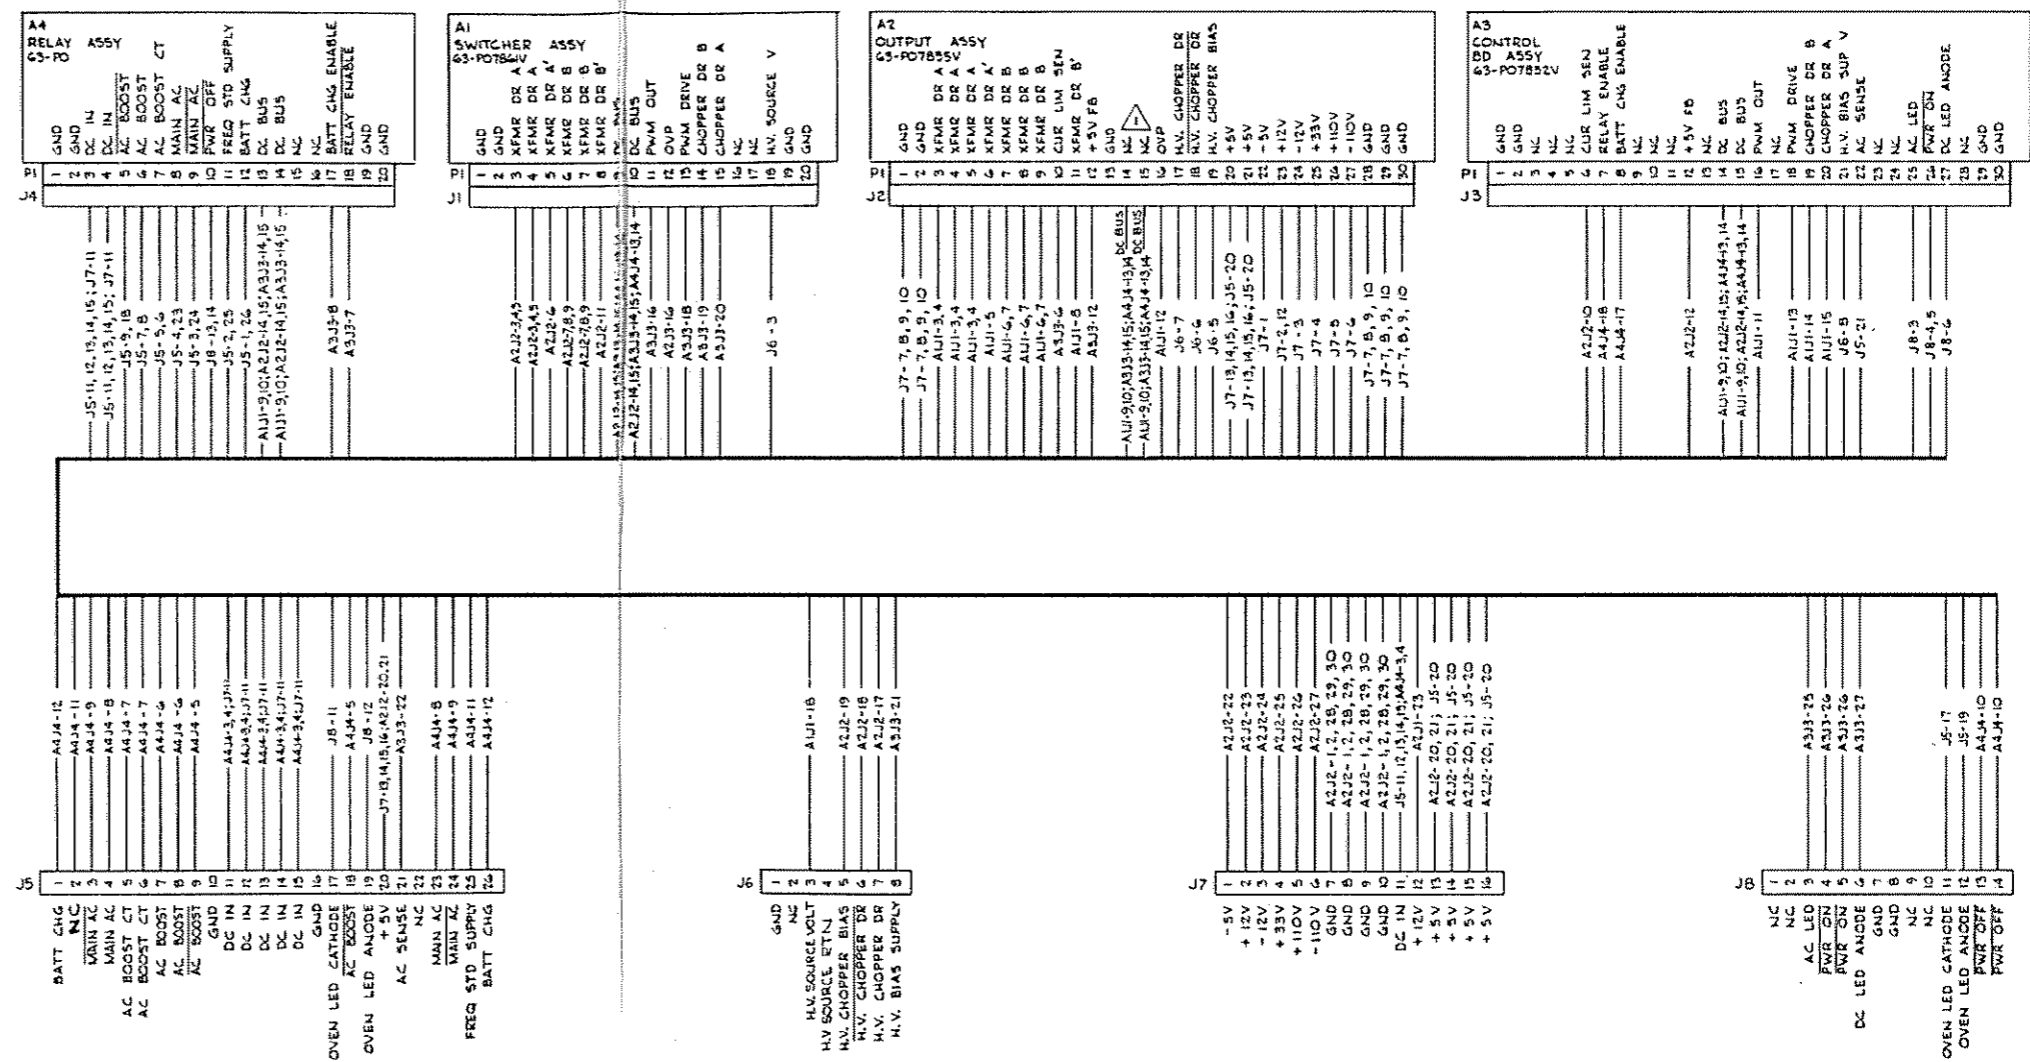

Figure 7-2. Low Voltage Power Supply A1 Interconnection Diagram
**7-14. SWITCHER MODULE A1A1.** The switcher module (figure 7-2) contains the pulse width modulator and chopper circuits. The input PWM DRIVE signal, from the control module, switches the chopping circuit on and off. This produces a rectangular wave output which is filtered and applied to transformer choppers A and B. In effect, this action regulates the voltage which is applied to transformer T201 on the output module. The PWM OUT signal is a secondary input to the voltage regulator comparator on the control module.